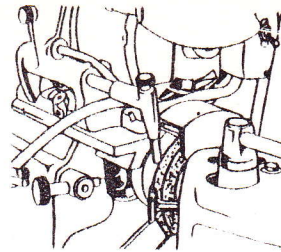

Fig. 6. Refacing Valve
7. If necessary, reface the valve (Fig. 6).